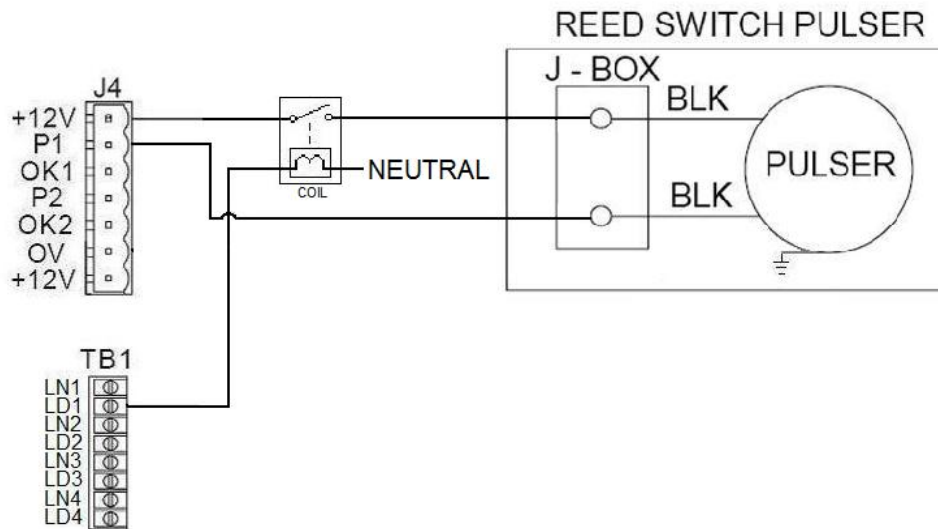

Figure 4-25. Removing Counts During Reset
- d. **Counts During Reset.** 12 VDC pulser power from the FMU to a pulser is constant whenever the FMU power switch is on. This can result in “counts during reset”; pulse counts generated when a mechanical dispenser resets. If this occurs, it may be eliminated by wiring pump handle detection and setting the USE PUMP HANDLE setting in the FMU to START or START AND END (Plus systems), or YES (Classic systems). If pump handle detection may not be wired or set to these configuration options, two other methods are available to eliminate counts during reset. One option is to install pulsers with 110 VAC connections. The other option is illustrated in Figure 4-25. Install mechanical relays to control the 12 VDC pulser power. Relays with 110 VAC coils and 12 VDC switching are necessary. Install the relays so the 12 VDC power to the pulser is interrupted by the relay, and controlled by a 110 VAC input from FMU authorization (LD_).